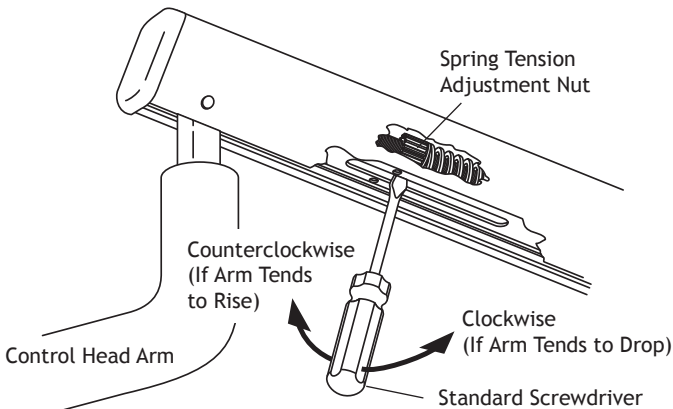

Figure 21. Spring Tension Adjustment
- If the arm tends to drop, turn the spring tension adjustment nut clockwise (as viewed from the control head end of the arm, see Figure 21).